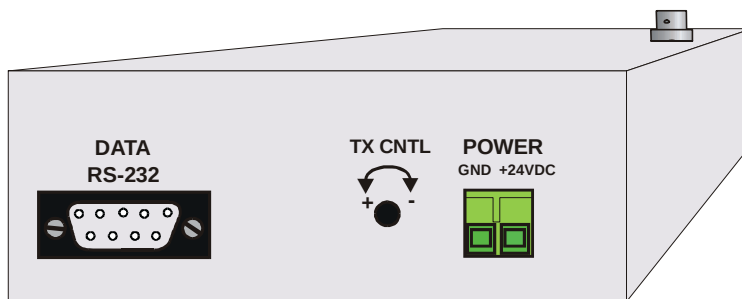

Figure 11 Back of the Activator
Step 2: Plug the power terminal block into the back of the Activator (Figure 11).